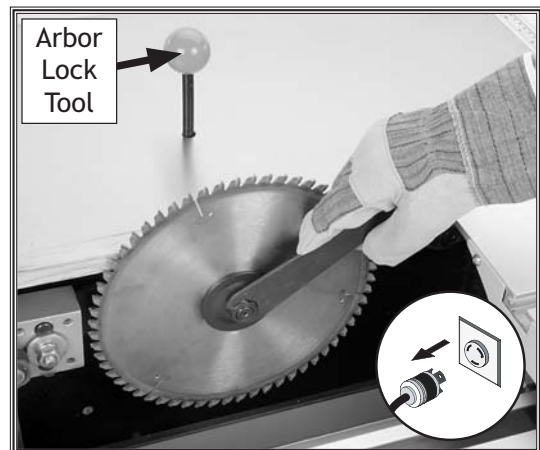

Figure 57. Replacing the main blade.
7. Slide the new blade over the arbor with the teeth facing the right of the saw, as shown in **Figure 57**.
8. Re-install the arbor flange and the arbor nut, then tighten them against the blade as shown in **Figure 57**. There **MUST** be an arbor flange between the blade and the arbor nut.